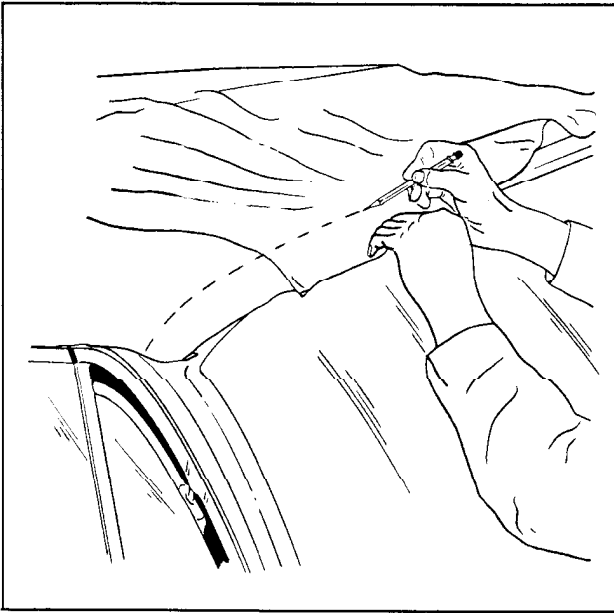

Fig. 17-43 Marking Top Material at Front Roof Rail
49. At front roof rail, pull top trim material forward to desired tension. While maintaining tension on top trim, place a pencil mark on outer surface of trim material along forward edge of front roof rail. (Fig. 17-43)